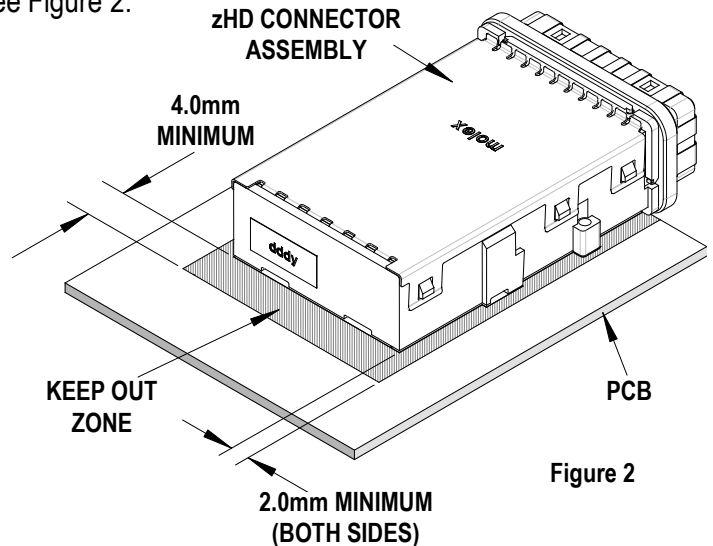

Figure 2
3. The right and left sides should be .079" (2.0mm). See Figure 2.